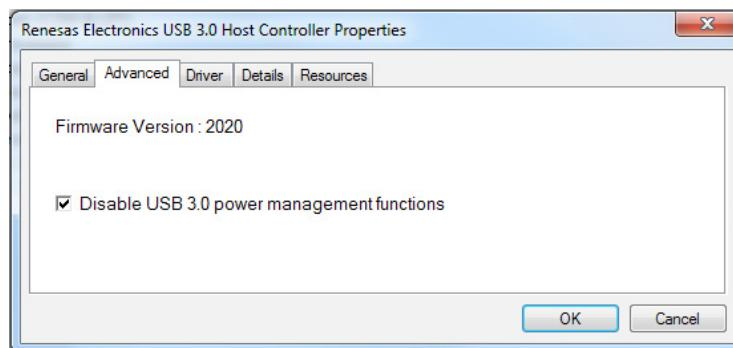

Figure 36: Disabling the power management function of the USB 3.0 Host Controller
3. Check the Disable USB 3.0 power management functions checkbox as shown in Figure 36.